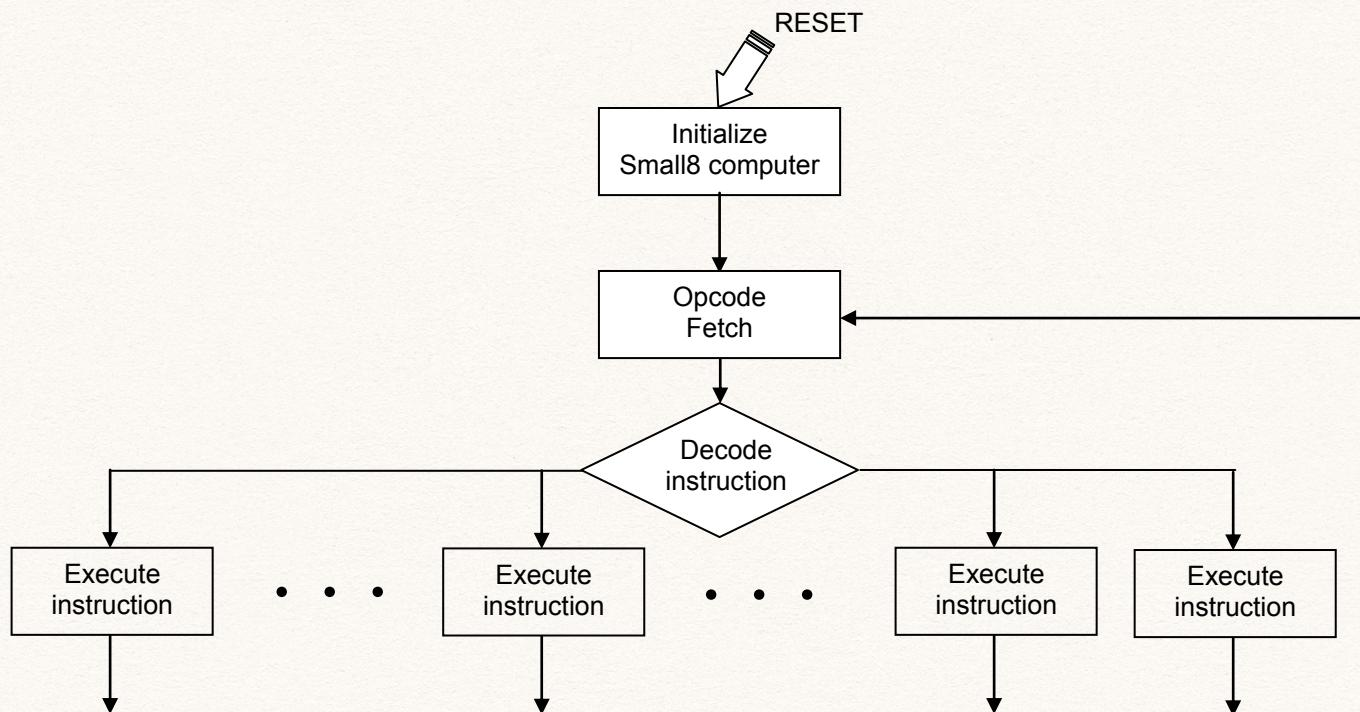

Figure 4. General algorithm for the CPU controller.
- You are to develop a detailed finite state machine for the CPU controller based on the algorithm in Figure 4 and the detailed design of the datapath (“internal architecture”) components you plan to use for Small8.
- Although the execution of each instruction is shown in Figure 4 as conceptually requiring a separate “path” in the finite state machine, your FSM should be optimized by using shared states whenever possible. Hint: similar types of instructions will have similar control requirements. For example, for the “and”, “or”, and “xor” instructions, the only difference in the control will be the select value for the ALU. If you can extract the select value from the opcode, you can use the same FSM states for each of these instructions.
refer to figure 4
Executing Instructions figure 4